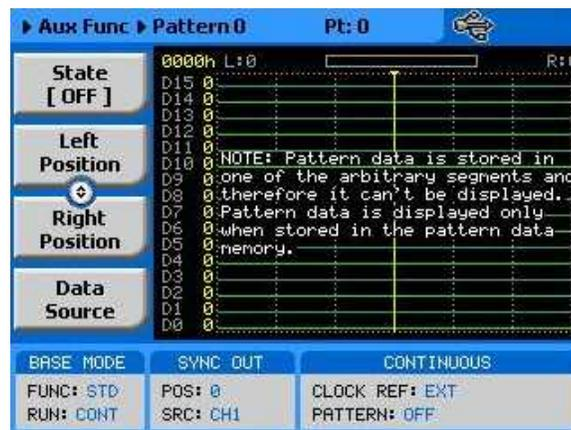

Figure 3-89, Digital Pattern Display while Using the Arbitrary Memory
The digital patterns are designed in an external software utility such as ArbConnction and then downloaded to the instrument using a remote interface. The patterns are written in a simple table (hex words) as shown in Figure 3-89.
- 2) Arbitrary Memory provides access to the entire arbitrary memory however, the data cannot be displayed on the front panel. If you select the arbitrary memory option, any waveform that is downloaded to the arbitrary memory can be generated simultaneously, from the front panel as an arbitrary memory and from the rear panel as digital pattern. When you select the arbitrary memory option, the message as shown in figure 3-89 will display.